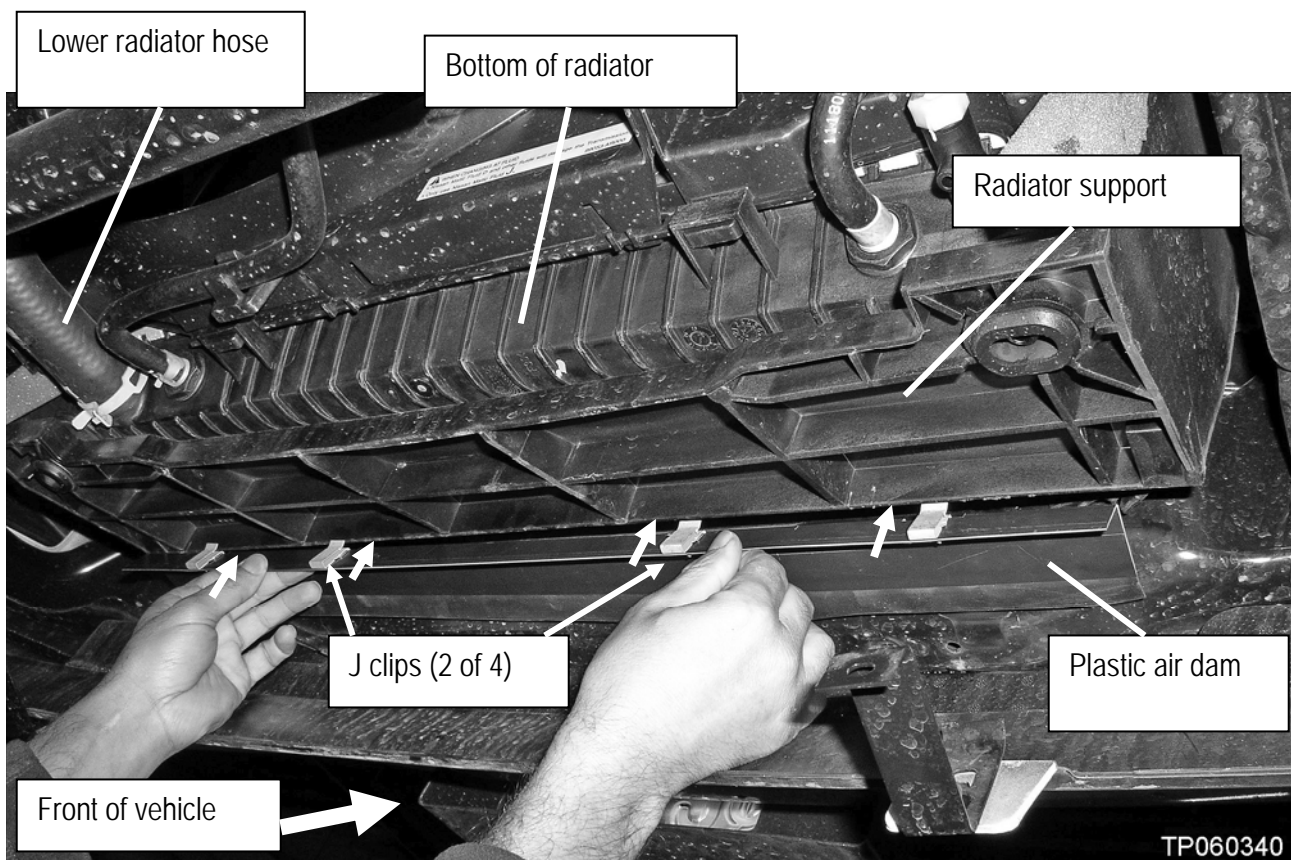

Figure 7
1. Install the plastic air dam as shown in Figure 7.